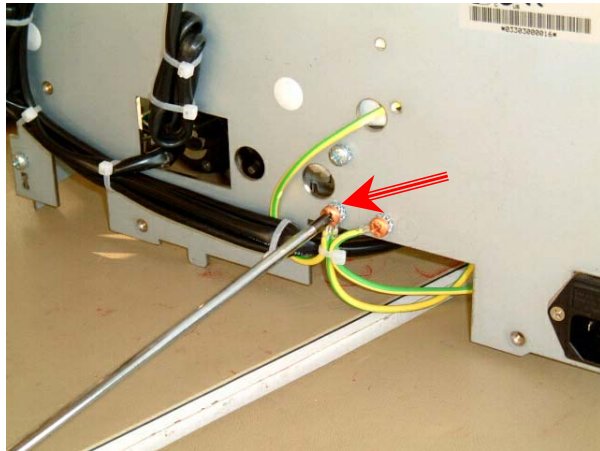

Fig.29
- Remove the ground screw and cut the wire tie. (Fig.29)